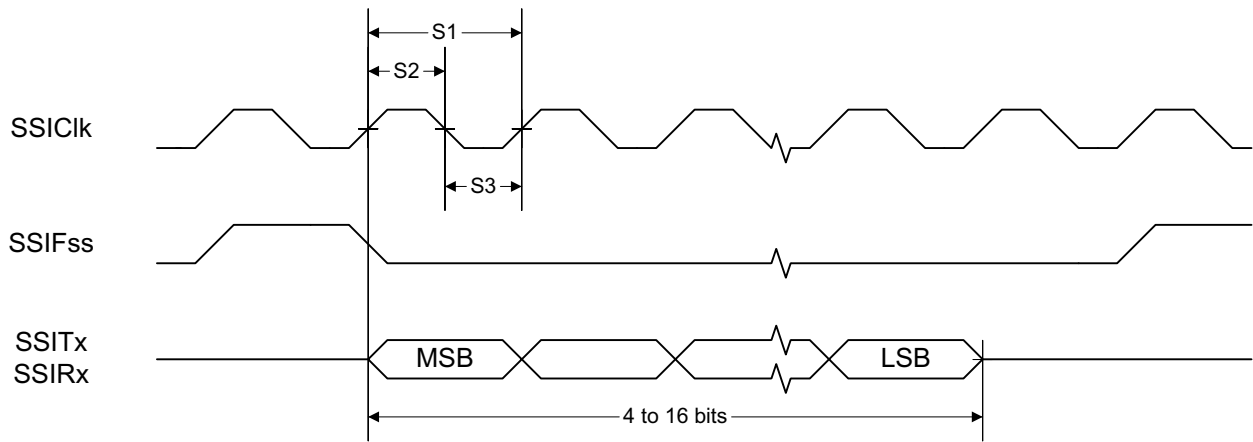
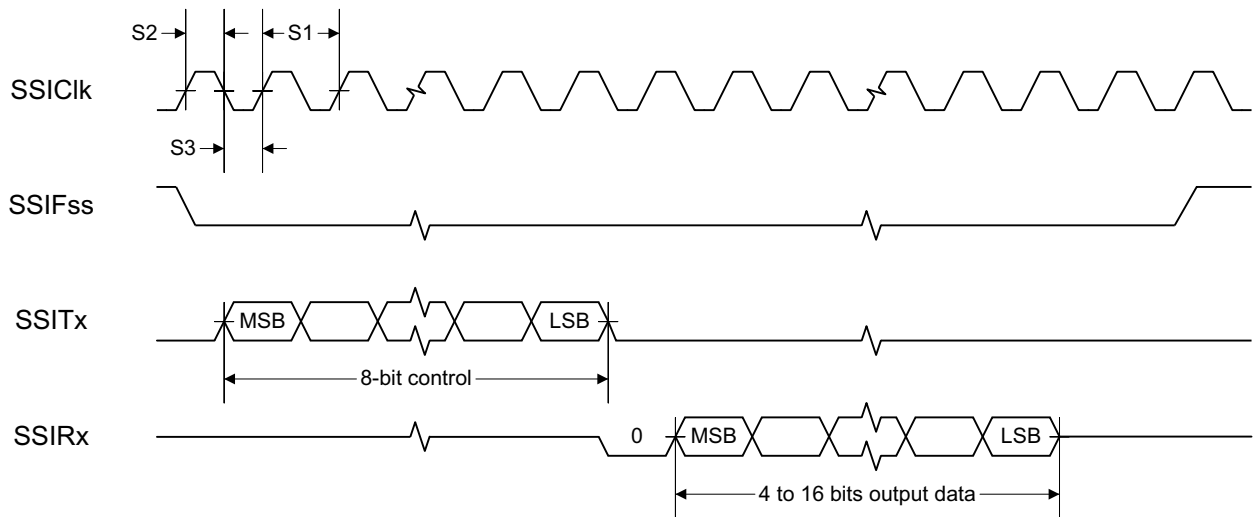
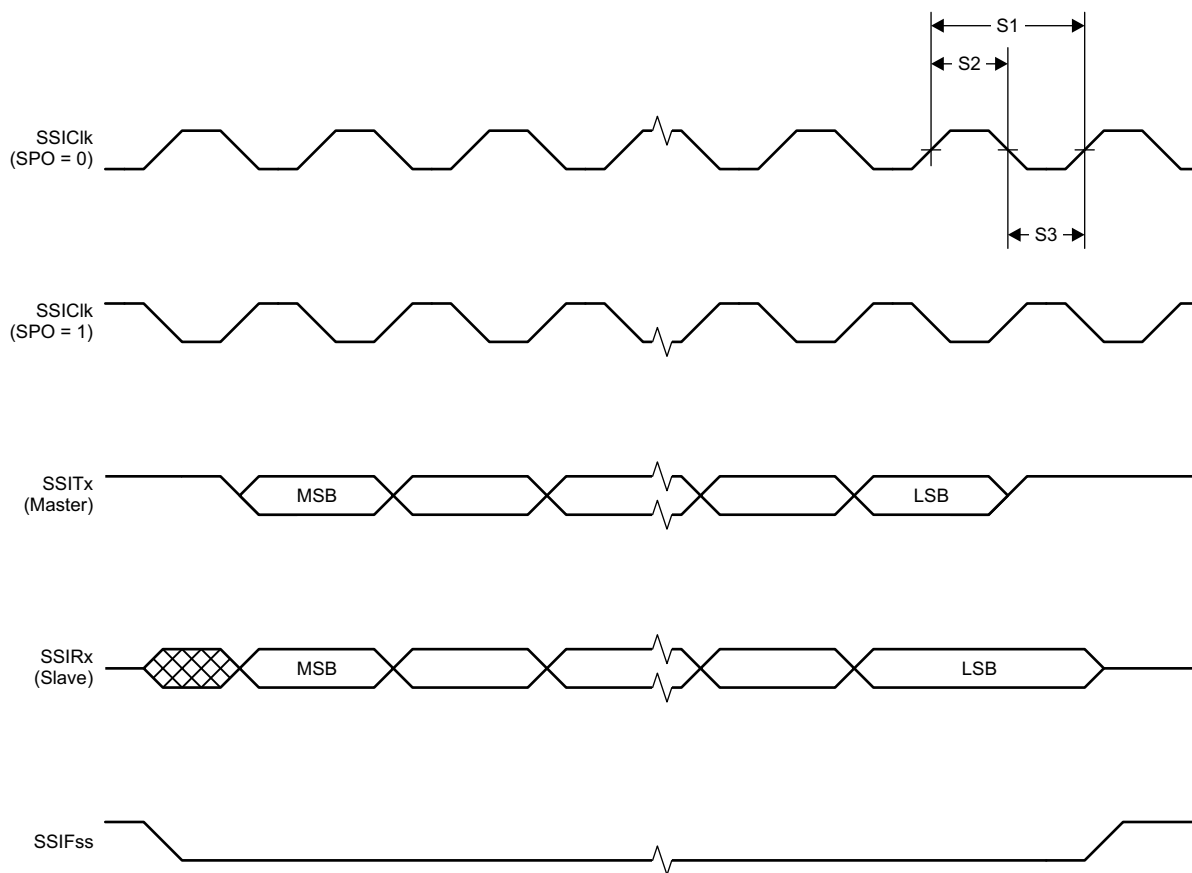

图 8-1. SSI Timing for TI Frame Format (FRF = 01), Single Transfer Timing Measurement
图 8-2. SSI Timing for MICROWIRE Frame Format (FRF = 10), Single Transfer
图 8-3. SSI Timing for SPI Frame Format (FRF = 00), With SPH = 1
(1) Refer to SSI timing diagrams 图 8-1, 图 8-2, and 图 8-3
(2) When using the TI-provided Power driver, the SSI system clock is always 48 MHz.